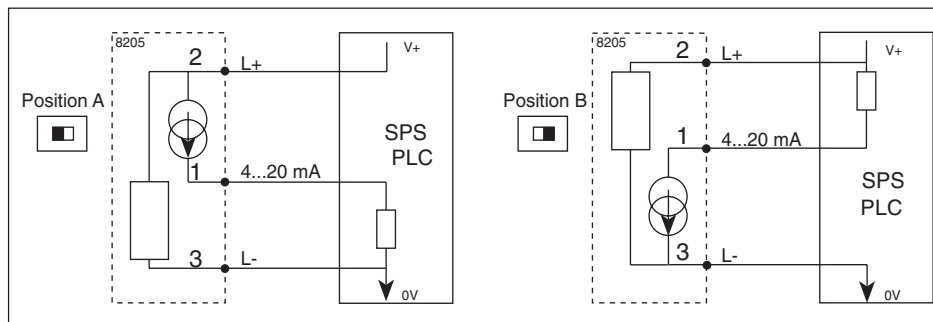

Fig. 3.9 Connection of the transmitter type 8205 to a PLC
**Note:** PLC-connection, depending on the PLC-version, the switch **1** on the circuit board must be set in position A or B (see Fig. 3.9 and 3.12).